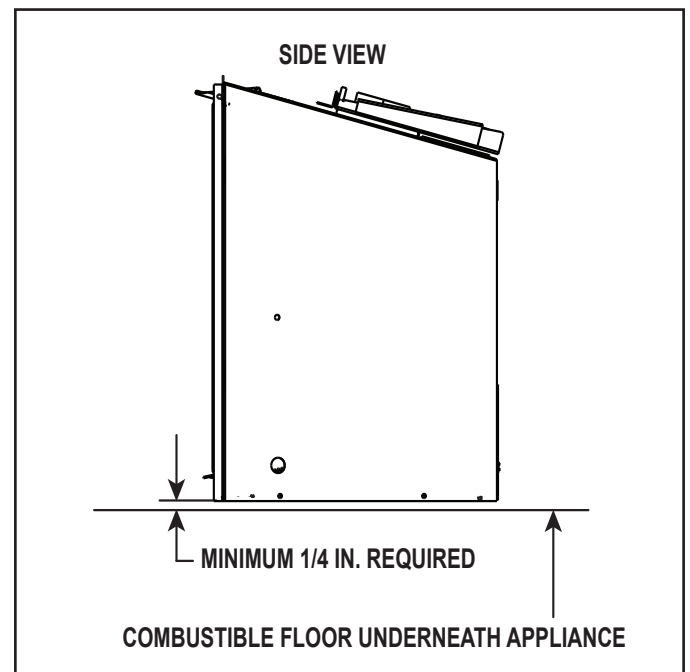

Figure 3.17 Solid Fuel Floor Clearance
- A minimum 1/4 inch gap from the bottom of the appliance to the metal floor of the solid fuel firebox is **REQUIRED**. See side view in Figure 3.17
- Combustible flooring underneath the appliance is acceptable with a 1/4 inch gap. See Figure 3.17.